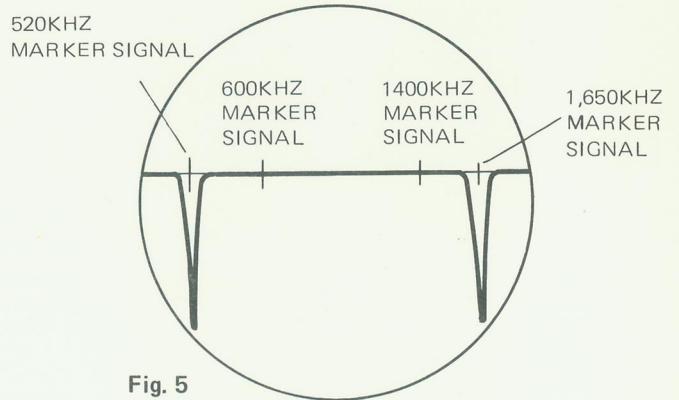

Fig. 5
- (1) With the variable capacitor fully closed, adjust T201 for 520kHz. Then, fully open the variable capacitor and turn AM2 for 1,650kHz. Repeat the above adjustments two or three times so that the receiving range of 520kHz to 1,650kHz can be obtained.
- (2) The waveform displayed on the alignment oscilloscope is as shown in Fig. 5.